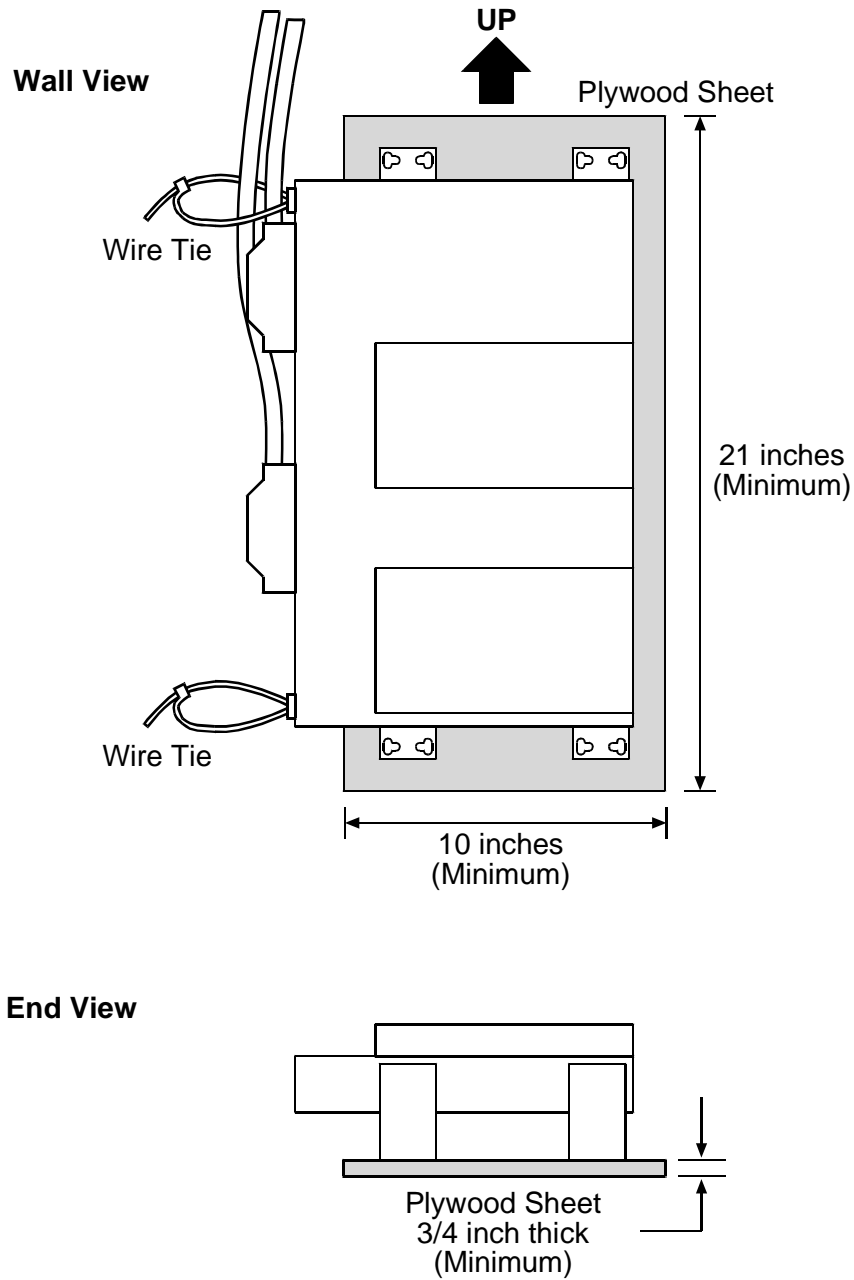

Figure 5-11. Plywood Sheet, Minimum Size
CAUTION! ACCESS NAVIGATOR REQUIRES FREE AIR SPACE ON TOP, BOTTOM, AND ENDS OF CHASSIS FOR AIR CIRCULATION. INSUFFICIENT VENTILATION MAY CAUSE SERVICE INTERRUPTIONS, RESULTING FROM EQUIPMENT OVERHEATING AND SHUTTING DOWN. DO NOT ALLOW CABLES AND OTHER COMPONENTS TO OBSTRUCT AIR CIRCULATION. THE ACCESS NAVIGATOR INCLUDES TIE POINTS FOR ATTACHING WIRE TIES TO SECURE CABLES TO REAR PANEL WITHOUT OBSTRUCTING AIR FLOW (SEE FIGURE 5-11).
1. Ensure that plywood is large enough to hold the Access Navigator (see Figure 5-11 on page 5-19). Plywood should extend at least 1 inch beyond brackets.